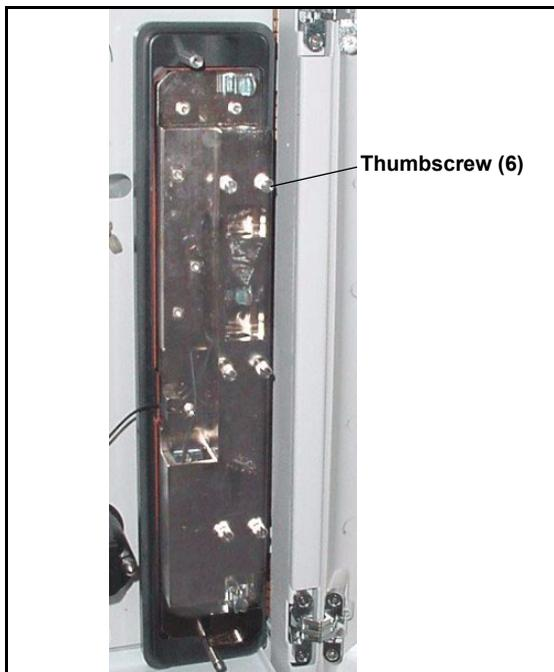

Figure B-18. ICS-1500 Column Heater Cover Removed
4. Unscrew the six thumbscrews on the top metal plate (see Figure B-18) and remove the plate.